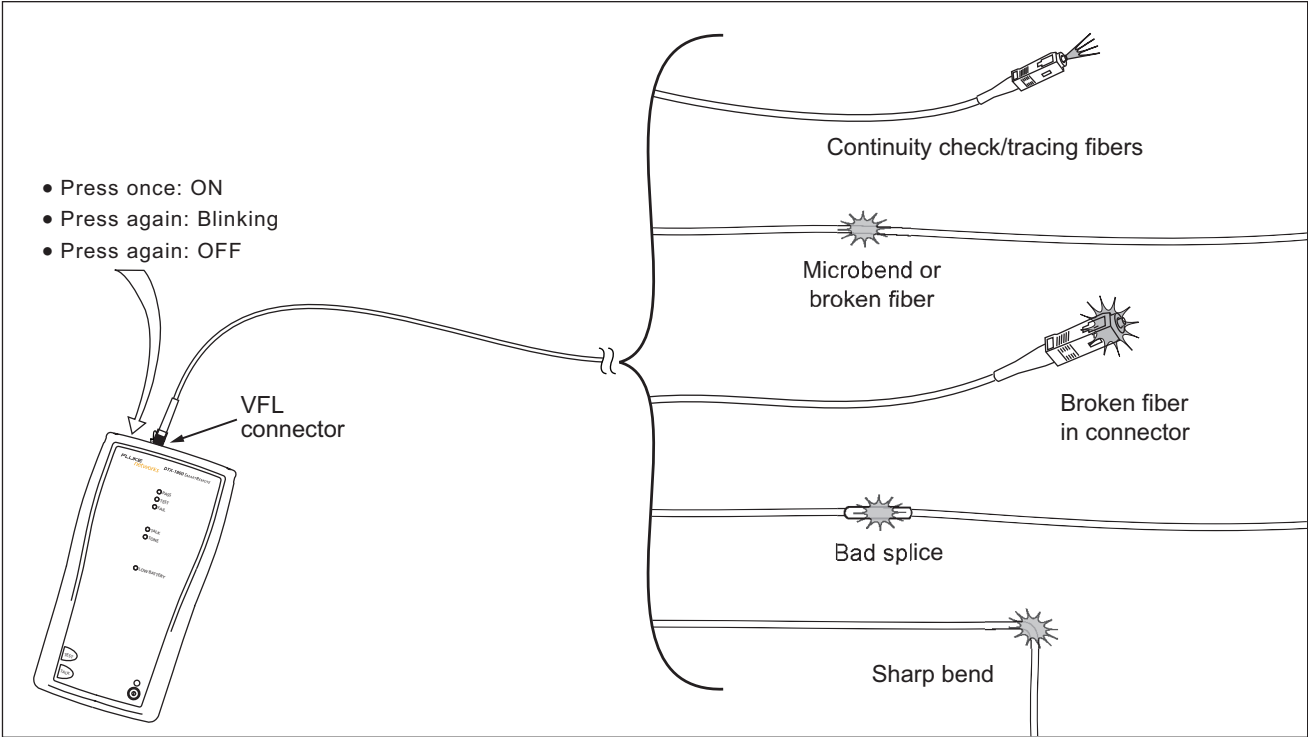

Figure 6. Using the Visual Fault Locator
- 3** Turn on the visual fault locator by pressing the button near the VFL connector, as shown in Figure 6. Press again to switch to blinking mode. Press again to turn off the locator.
- 4** Look for the red light at the end of a fiber or at faults (Figure 6).